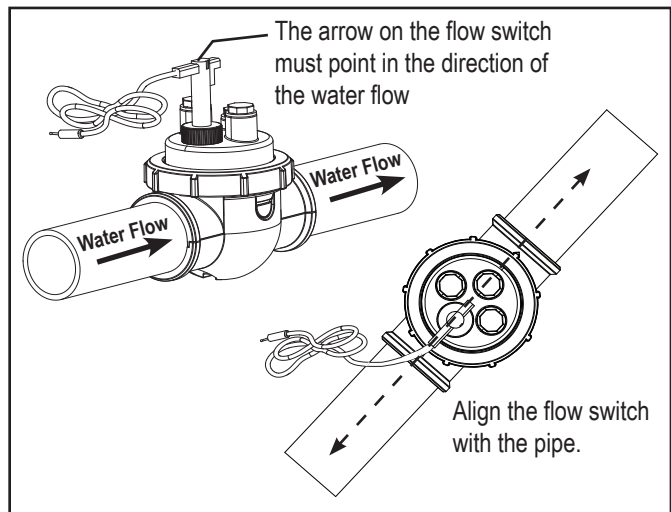

Figure 12. Replacing the Flow Switch
11. Install the pod housing as shown. Make sure the flow switch is in line with the pipe (see Figure 12 and 13).